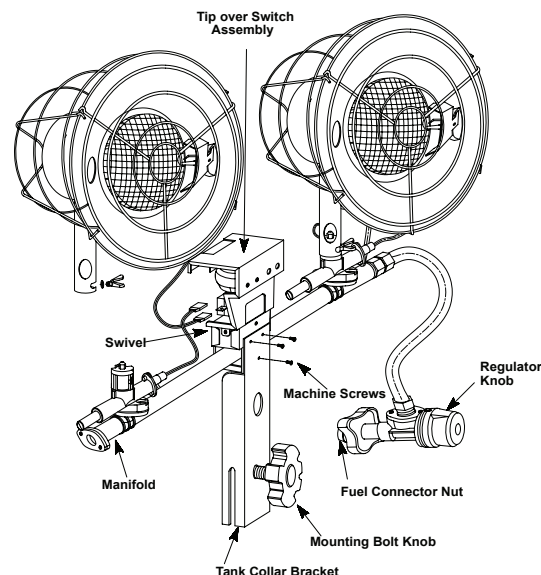

Figure 2. Perspective view of heater
1. Place Tank Collar Bracket on top of Center Plate. Be sure Mounting Bolt Knob is on bottom as shown in Figure 2.